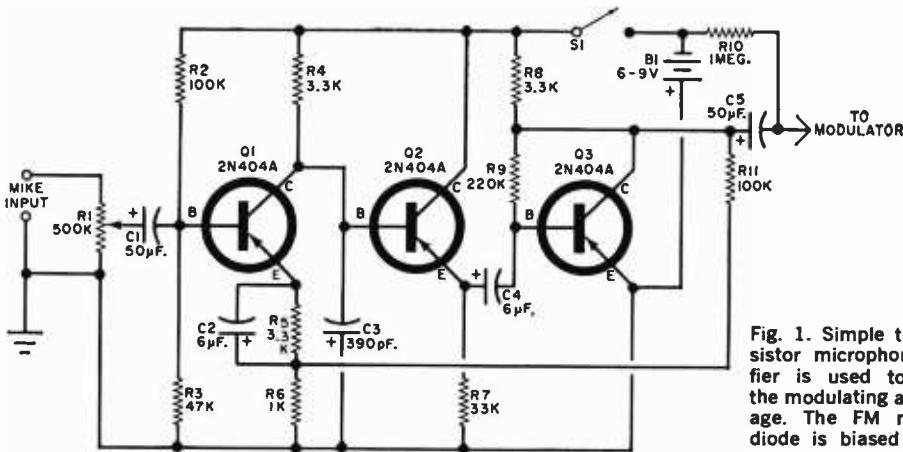
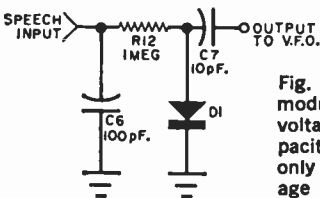
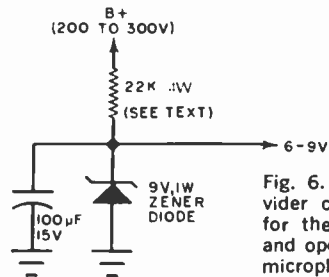

Fig. 1. Simple three-transistor microphone amplifier is used to provide the modulating audio voltage. The FM modulator diode is biased by R10.
Fig. 2. Complete FM modulator, featuring voltage-variable capacitor D1, requires only a bias voltage for operation.
Fig. 6. This voltage divider can provide bias and operating power for the FM modulator, and microphone amplifier.
If you prefer to make your own circuit board, you can still follow the parts layout shown, using the schematic (Fig. 1) as a wiring diagram.
You may also consider using one of the new transistorized mikes to drive the FM modulator instead of getting a separate amplifier. If you prefer a home-built job, try the circuit shown in Fig. 1. It is a conventional three-transistor audio amplifier with limiting features. Limiting helps prevent excessive frequency deviation on audio peaks, and though not essential, generally improves signal quality.
Potentiometer *R1* allows you to adjust the microphone output for the correct frequency deviation before the audio is fed to the base of *Q1* through capacitor *C1*. Transistor *Q2*, hooked up as an emitter follower, drives output stage *Q3* through *C4*. Operating power is provided by *B1*, which also provides reverse bias for the modulator Semicap diode (see Fig. 2) through *R10*.
Note from Fig. 1 that the modulator
If the FM modulator or amplifier is installed in a powered VFO, or in a transmitter with a built-in VFO, the bias and operating voltage can be taken from the transmitter's regulated plate voltage by using a voltage divider like the one shown in Fig. 6. The value of the dropping resistor may have to be increased or lowered to get the correct voltage. Try to get from 6 to 10 volts from the divider. And since this voltage is positive, it will be necessary to reverse the polarity of the diode (*D1*) from the position shown in Fig. 2. Otherwise, a 9-volt battery can be used as shown in Fig. 1.
**How It Works.** The signal from an antenna connected to *TS1* (see Fig. 1) is coupled to the base of *Q1*. Transistor *Q1* serves both as an amplifier and as a mix-